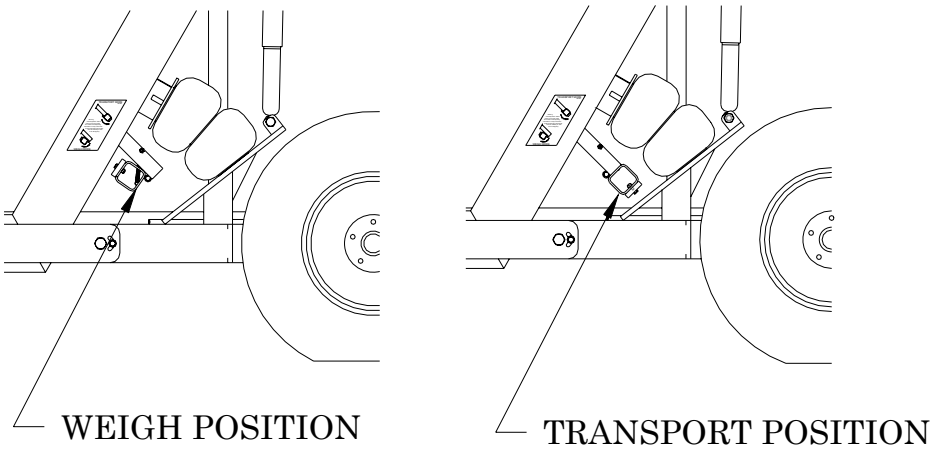

Figure 5
6. Flip the suspension stops (on both sides of the trailer) into the weigh position (see Figure 5). Trailer will not fully lower to ground with stops in transport position.